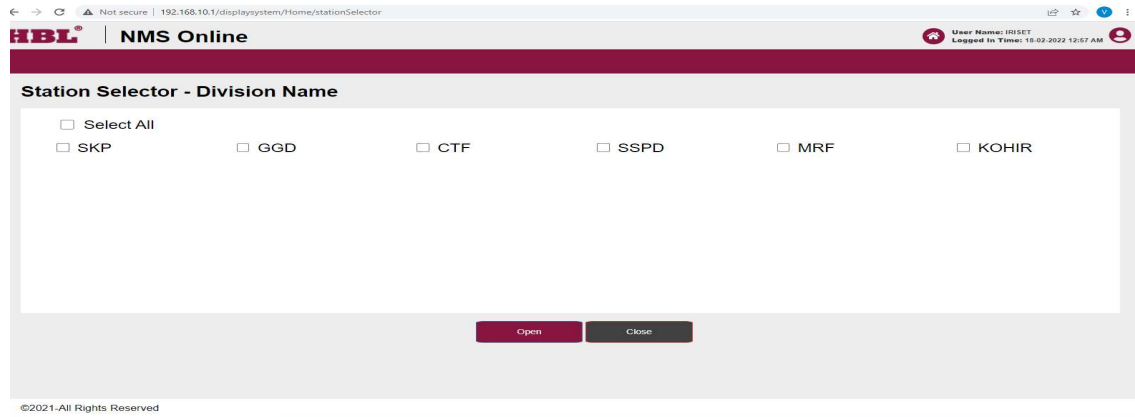

Fig 3. Selection of yard
1. NMS online is selected then the page with selection of yard will come where depending upon the user choice any or all the stations can be selected as shown in the figure 3. After selection open button is clicked .